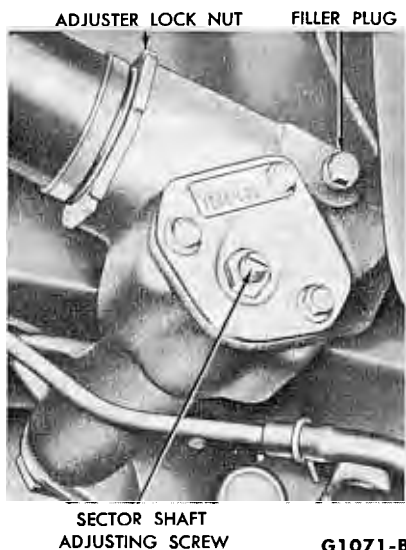

FIG. 29—Typical Steering Gear Adjustments
6. Loosen the nut which locks the sector adjusting screw (Fig. 29), and turn the adjusting screw counterclockwise.
8. Loosen the steering shaft bearing adjuster lock nut, and tighten or back off the bearing adjuster (Fig. 29) to bring the preload within the specified limits.